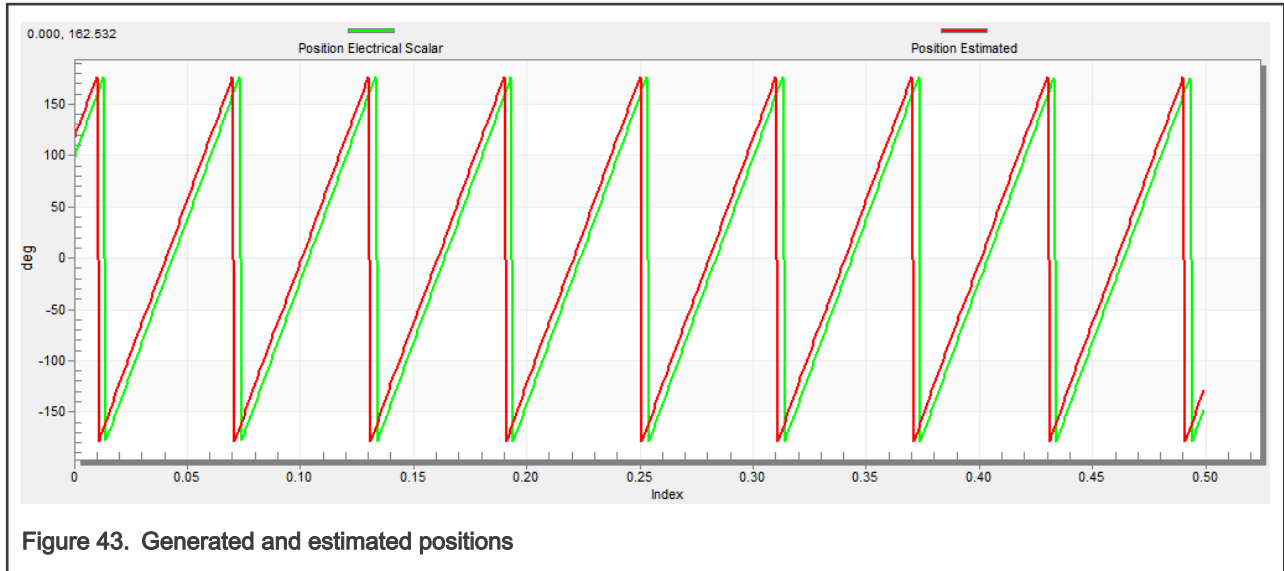

Figure 43. Generated and estimated positions
- Select the “Position” recorder to check the observer functionality. The difference between the “Position Electrical Scalar” and the “Position Estimated” should be minimal (see Figure 43) for the Back-EMF position and speed observer to work properly. The position difference depends on the motor load. The higher the load, the bigger the difference between the positions due to the load angle.